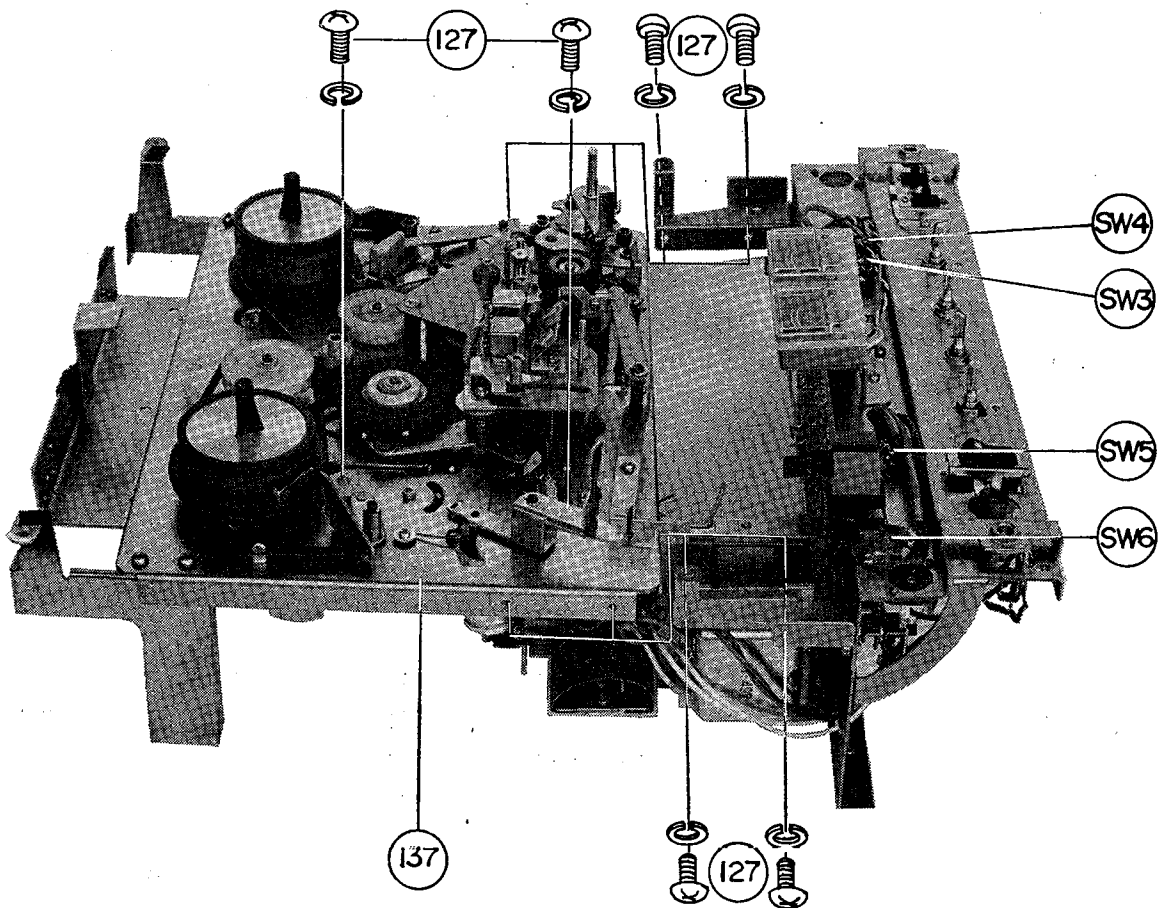

Figure 5
(Refer to Figure 5 and Schematic Diagram)
## **AMPLIFIER CHASSIS ASSEMBLY REMOVAL** (Refer to Figure 5, Figure 7)
2. Remove the 2 SCREWS (127) on the MECHANISM CHASSIS (Refer to Figure 5)
3. Remove the 4 SCREWS (127) on the both sides of the MECHANISM CHASSIS (137).